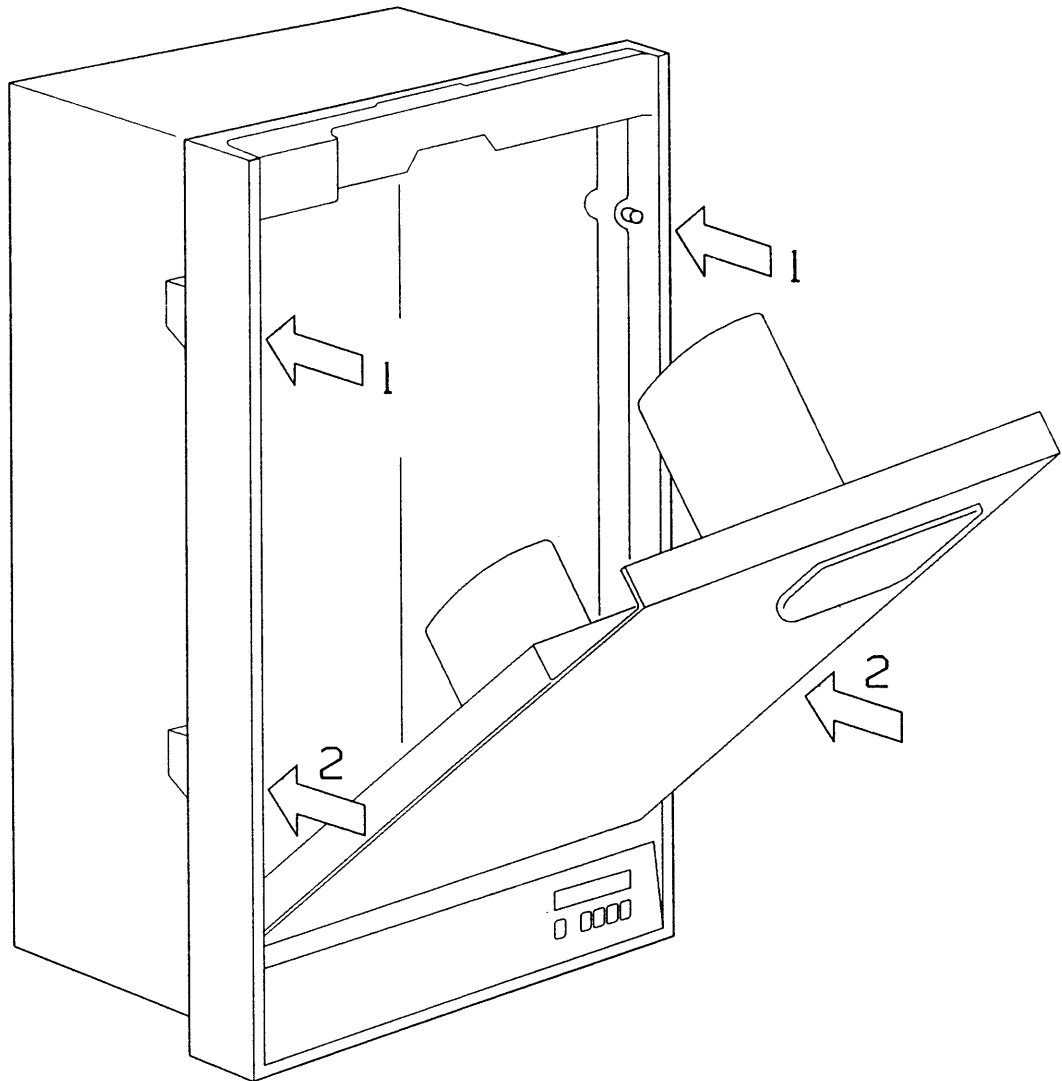

Figure 2.3.1.3 9914V RACK CLAMP ACCESS
If the rack clamps did have sufficient clearance at step (vi), insert the 5 mm A/F Allen key into each topmost clamp screw (annotated '1' in Figure 2.3.1.3) and rotate continuously clockwise until tight. Do not rotate anticlockwise because this may mis-align the clamp.
- viii) Use the same Allen key to tighten each clamp screw (annotated ' 2 ' in Figure 2.3.1.3) by rotating continuously clockwise until tight. Do not rotate anticlockwise because this may mis-align the clamp.
- ix) Check that all four rack clamps have rotated to the ' holding ' positions of Figure 2.3.1.2. If not, repeat the steps from (vi) onwards.